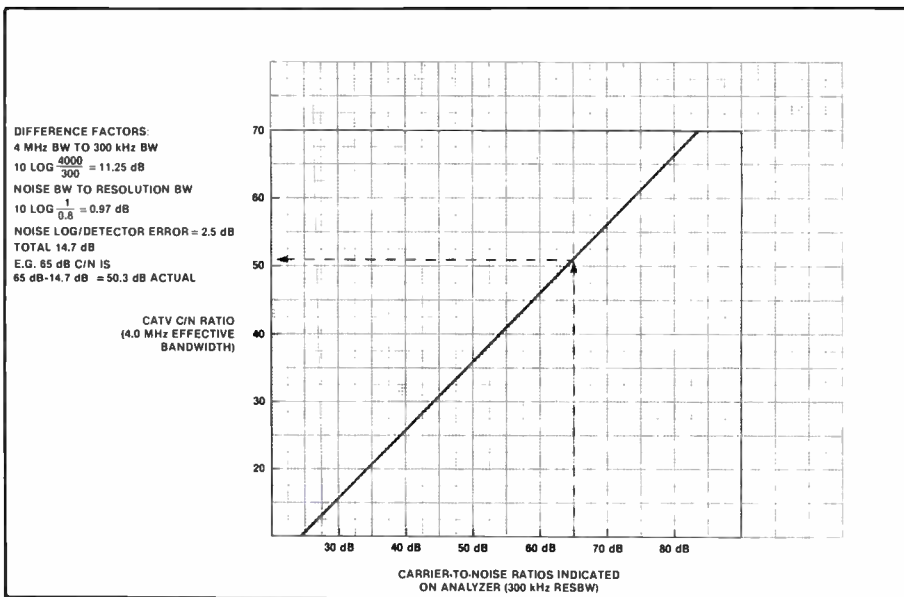

Figure 9-4 Analyzer bandwidth and log error conversion chart
10. Add the correction factor obtained in step 9 to the C/N measured in step 7. Referring to figure 9-4, use the corrected C/N value from the spectrum analyzer to find the C/N for a 4 MHz system.
Referring to figure 9-4, 65 dB along the
3. The C/N of the distribution system can be determined by performing steps 1 through 4 as given. Skip to step 6. In step 7, measure from the top of the screen to the noise floor of an unoccupied adjacent channel. For example, two divisions to the left of the picture carrier in figure 9-4.